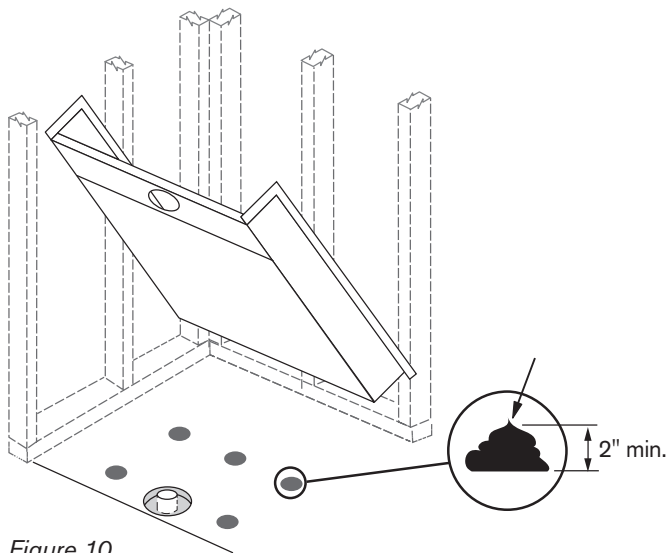

Figure 10
- 13 Place pan in pocket and prop it up while you apply the mud set. Place thick (2" high, minimum) dollops following the pattern you marked on the floor. The mud set will fill the void to help support the pan. (Figure 10)